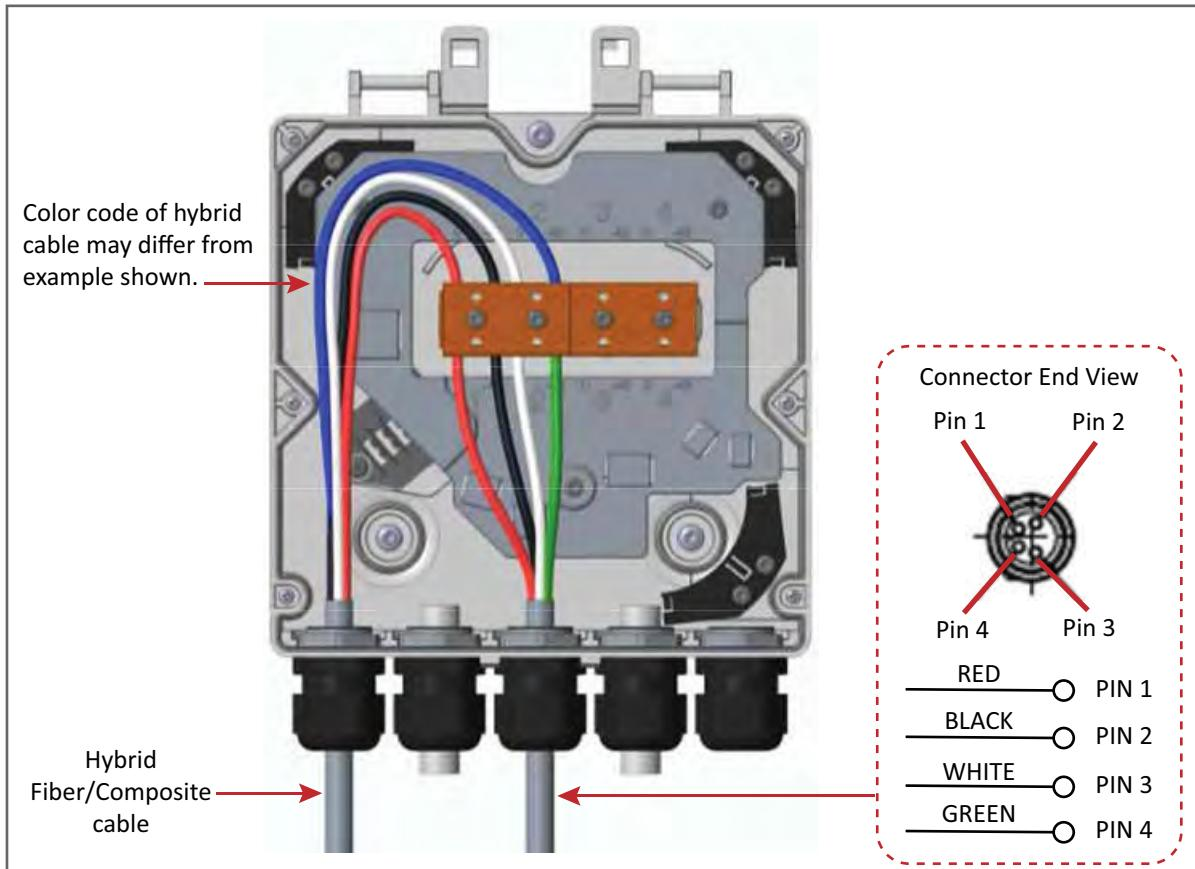

Figure 19. Wiring a Hybrid Fiber Splice Box for 4-Wire Power with LPS
- Refer to Table 10 and Figure 19 to wire a Hybrid Fiber Splice Box for 4-Wire power with Limited Power Source (LPS).